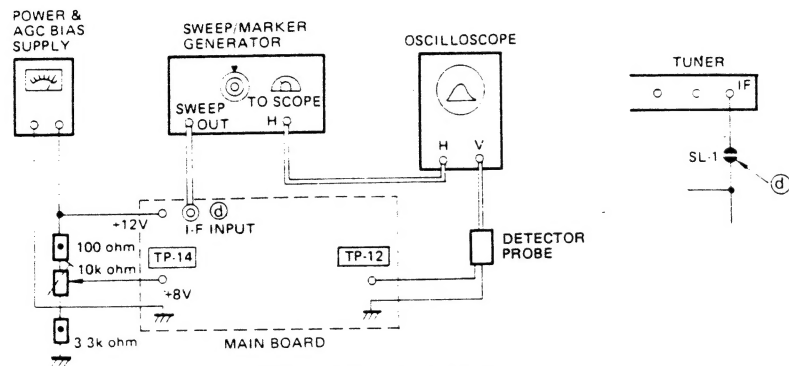

Figure 7. Picture I-F Sweep Alignment
- GENERAL Refer to Figure 7 for test equipment connection.
- PRELIMINARY STEPS 1. Disconnect the solder link SL-1 (ⓐ see Figure 7) on the foil side of the Main Board.
- SWEEP/MARKER GENERATOR Connect to the point ⓐ as shown in Figure 7 on the Main Board.
- PRELIMINARY STEPS 1. Disconnect the solder link SL-1, SL-3 (ⓐ see Figure 7 and 9) on the foil side of the Main Board.
| 2. AFC Detector | 38.9 MHz CARRIER WAVE | L171 | <ul style="list-style-type: none"> Connect IF carrier wave (60 dBμ or more) to the point ⓐ in Figure 7. Adjust L171 for 4.3V at pin 16 of IC101. |